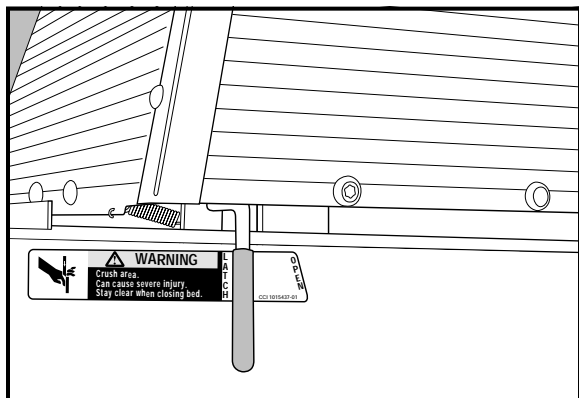
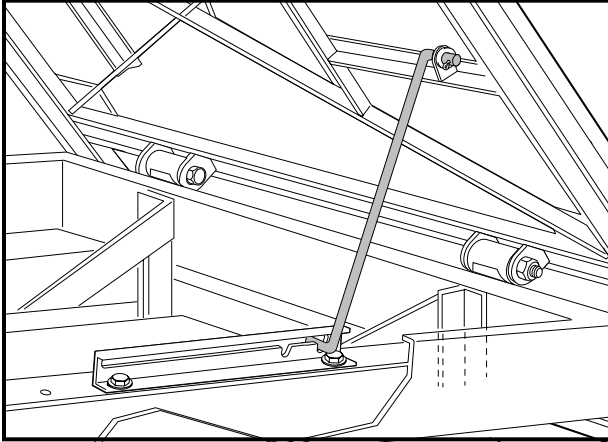

Figure 12 Bed Latch
Figure 13 Prop Rod
The vehicle is equipped with a bed latch on the driver side of the vehicle (**Figure 12, Page 20**) and an automatically engaging prop rod (**Figure 13, Page 21**). To lift the bed, pull the latch handle toward the rear of the vehicle and lift the bed. To close the bed, disengage the prop rod and gently lower the bed until the bed latch engages. **DO NOT** drop the bed.
- THE VEHICLE IS EQUIPPED WITH AN AUTOMATICALLY ENGAGING PROP ROD, UNLESS EQUIPPED WITH THE ELECTRIC BED LIFT ACCESSORY (**FIGURE 13, PAGE 21**).
The vehicle is equipped with an automatically engaging prop rod and prop rod track on the driver side of the rear body (**Figure 13, Page 21**). When pulling the bed latch handle and lifting the bed, the prop rod will come to rest in one of the notches in the prop rod track.